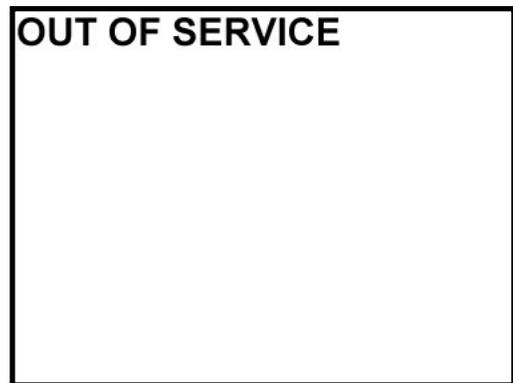

FIGURE 1.2 - "Out of Service"
**NOTE:** This is only if the Credit Card Module and/or P.O.S. (Point of Sale) has not been configured or installed at this time (see figure 1.2).